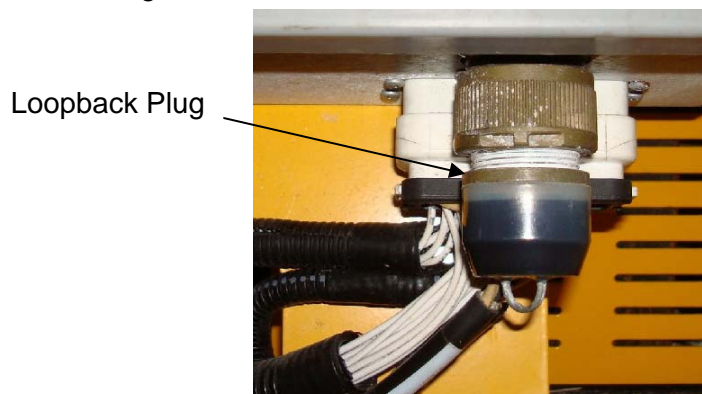

Figure 6-4. Loopback plug
- Disconnect the electric **LOOPBACK PLUG** from the receptacle on the bottom right of the ground (lower) control box. Refer to Figure 6-4.